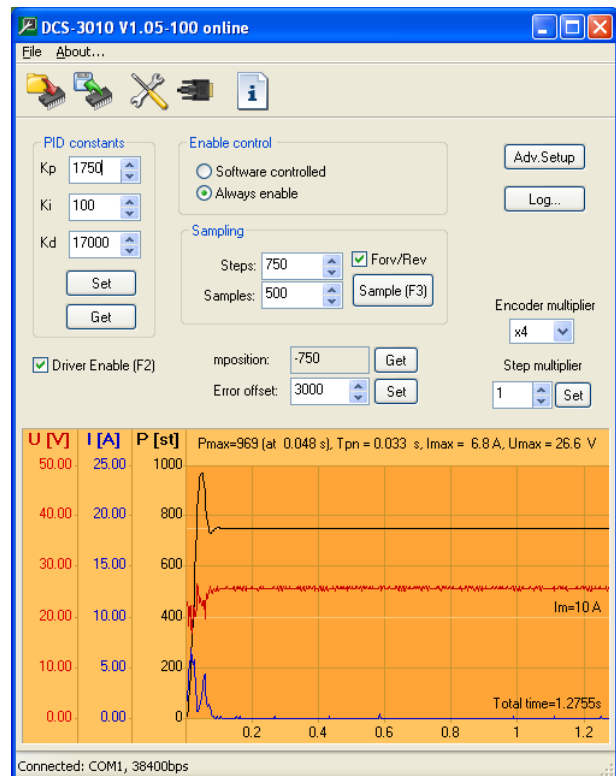

Figure 10.4
STEP 4: Figure 10.4 gives the final values of the PID controller constants and the motor response.